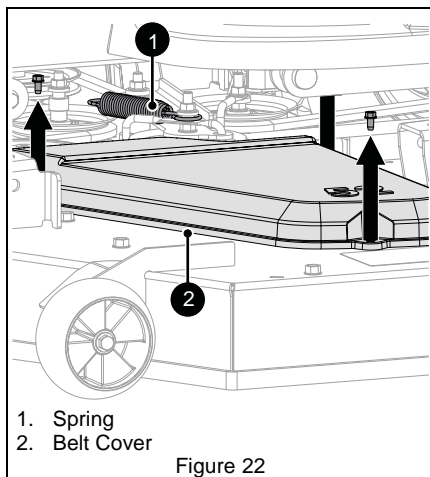

Figure 22
2. Lower deck to lowest cutting height. See Figure 22.